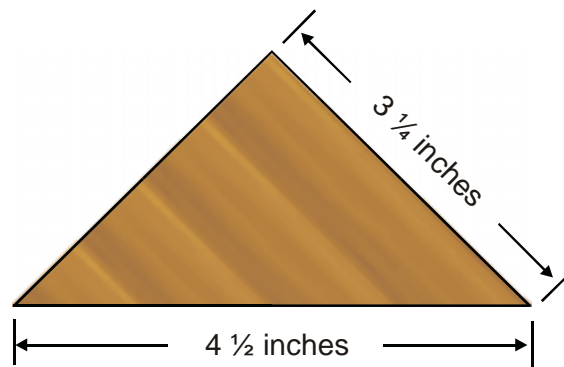

Figure 26 Plywood corner template
- Step 2:** Lay out the 45-degree corner cuts. It is helpful to create a template with the dimensions 3 1/4" x 3 1/4" x 4 1/2" (Figure 26).